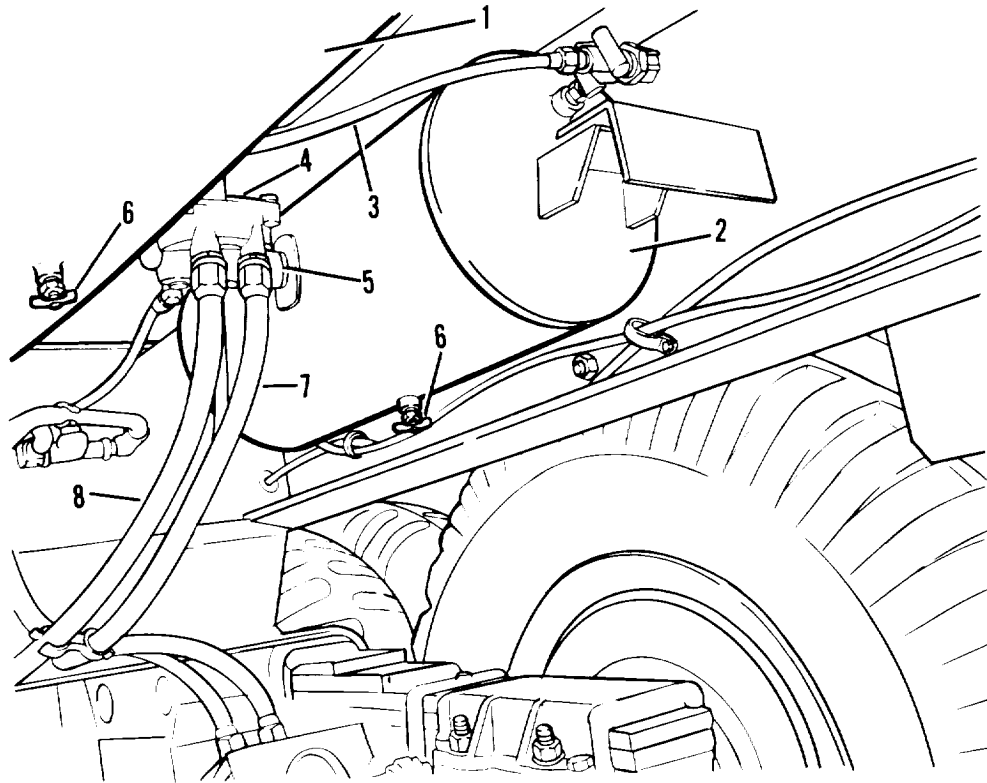

Figure 4-25. Air reservoir, emergency relay valve and lines
g. Service Air Line. The service air line (7, figure 4-25) on the semitrailer extends from the air hose coupling (tagged SERVICE), on the right side of the front crossmember, along the right frame rail to the emergency relay valve. Its purpose is to transmit changes in air pressure originated in the towing vehicle, which causes the emergency relay valve to function.
h. Emergency Air Line. The emergency air line (8, figure 4-25) on the semitrailer extends from the air hose coupling (tagged EMERGENCY), on the left side of the front crossmember, along the left frame rail to the emergency relay valve. This air line transmits compressed air to fill the semitrailer reservoir and maintain proper air pressure, under control of the emergency relay valve, to apply the brakes on the semitrailer.
i. Emergency Relay Valve. The emergency relay valve (4, figure 4-25) is mounted on the semitrailer air reservoir by a connecting pipe nipple (5). The valve directly controls the service brakes on the semitrailer. It speeds brake action by releasing air from the air reservoir, on the semitrailer, directly to the air brake chambers. This valve controls the flow of air to and from the semitrailer air reservoir and automatically applies the brakes if the semitrailer breaks away from the towing vehicle or if there is a serious leak in the emergency air line.
j. Air Reservoirs. The air reservoirs (1 and 2, figure 4-25) are attached to the chassis frame. The reservoirs are connected by tubing (3) and provide a supply of air through the emergency relay valve (4) for applying the brakes. The emergency relay valve (4) is mounted directly to the left air reservoir by a pipe nipple (5). The air reservoirs are equipped with drain cocks (6) for draining accumulations of moisture and for releasing air pressure in the semitrailer brake system.
- (1) Drainage of moisture. Open drain cocks (6, figure 4-25) on each air reservoir. Close drain cocks after drainage.
- (2) Test and check for serviceability. With air brake system connected to towing vehicle, coat drain cocks, pipe plugs and connections with soapsuds. No leakage is permissible. Tighten any leaking connections. Inspect for damage or corrosion. Replace reservoir if it leaks or if any damage or corrosion is found that would weaken reservoir.